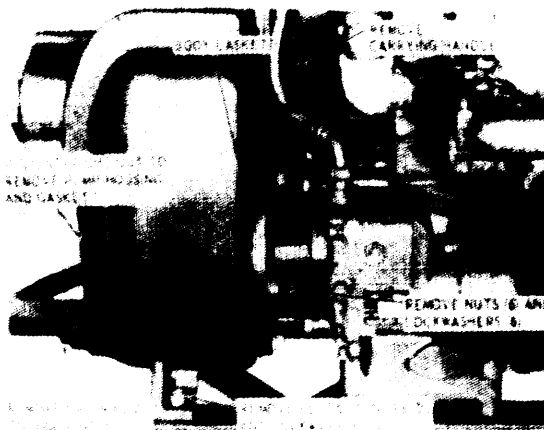
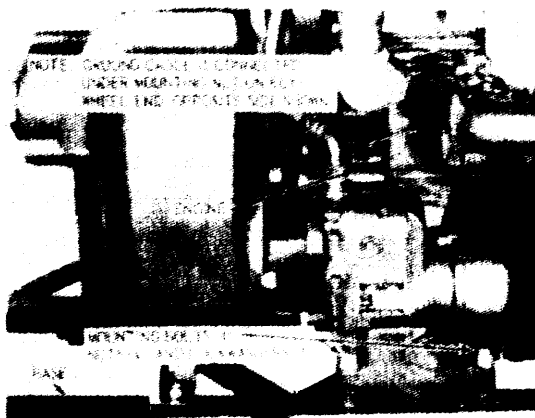
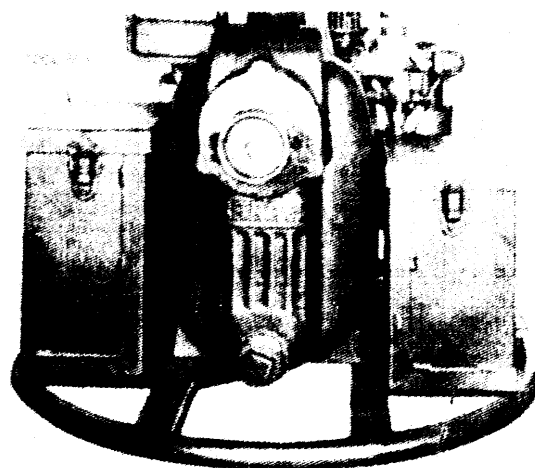

Figure 35. Pump housing, removal and installation.
Figure 37. Engine, removal and installation.
Figure 38. Tool boxes, removal and installation.
a. *Housing and Tool Boxes Removal.* Refer to figure 35 and remove the pump housing, and to figure 38 and remove the tool boxes.
e. Tool Box and Housng Installation. Refer to figure 38 and install the tool boxes, and to figure 35 and install the pump housing.
a. Removal. Refer to figure 38 and remove the tool boxes, and to figure 37 and remove the engine.
- (1) Clean the engine with a cloth dampened with an approved cleaning solvent; take care to remove all greasy and oily deposits.
- (2) Inspect the engine for missing components and visible damage. Using the starter rope, turn the engine crankshaft over slowly and check for scraping or binding.
- (3) With the ignition switch in the OFF position to prevent engine starting, turn the engine crankshaft over with the starting rope to check for compression.
- (4) If normal compression resistance is not noted, or if engine binds or scrapes when the crankshaft is rotated slowly, report to direct support maintenance.
c. Installation. Refer to figure 37 to install the engine, and to figure 38 to install the tool boxes.
- STEP 2. INSTALL BODY (FIGURE 35) AND CHECK IMPELLER FOR RUBBING AS BODY NUTS ARE TIGHTENED. IF RUBBING OCCURS, REMOVE BODY AND SUBSTITUTE 1/32 INCH BODY GASKET AND REINSTALL BODY. CONTINUE TO ADD BODY GASKET THICKNESSES IN 1/64 INCH INCREMENTS UNTIL RUBBING CEASES AND IMPELLER IS FREE.
a. Removal. Refer to figure 38 and remove the tool boxes.
- (1) Clean the tool boxes with a cloth dampened with an approved cleaning solvent. Wipe dry.
- (2) Inspect the tool boxes for cracks, enlarged mounting holes, damaged or sticking hinges, severe dents, and other damage. Lubricate sticking hinges with light penetrating oil. Replace a damaged tool box.
c. Installation. Refer to figure 38 and install the tool boxes.